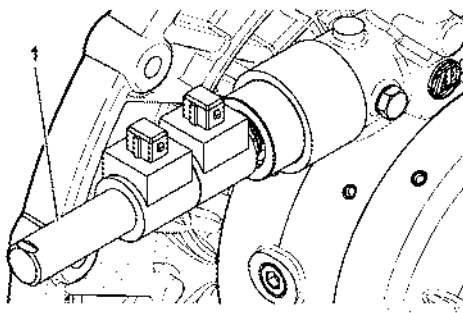

Figure 7
2. Unscrew and remove the cover (1, Figure 7).